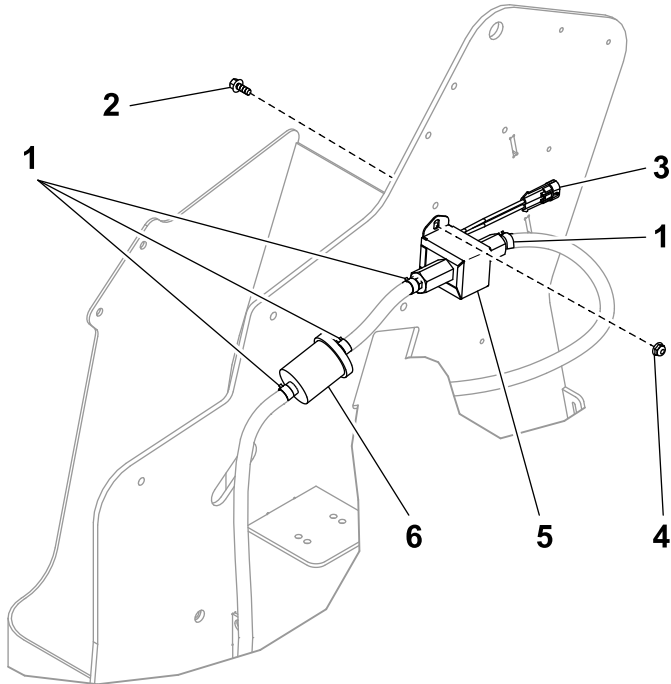

Figure 20
Use Figure 1, Figure 19, and Figure 20 for this procedure.
5. Install the new fuel pump with 2 bolts (1/4 x 5/8 inch) and 2 locknuts (1/4 inch) as shown in Figure 20.